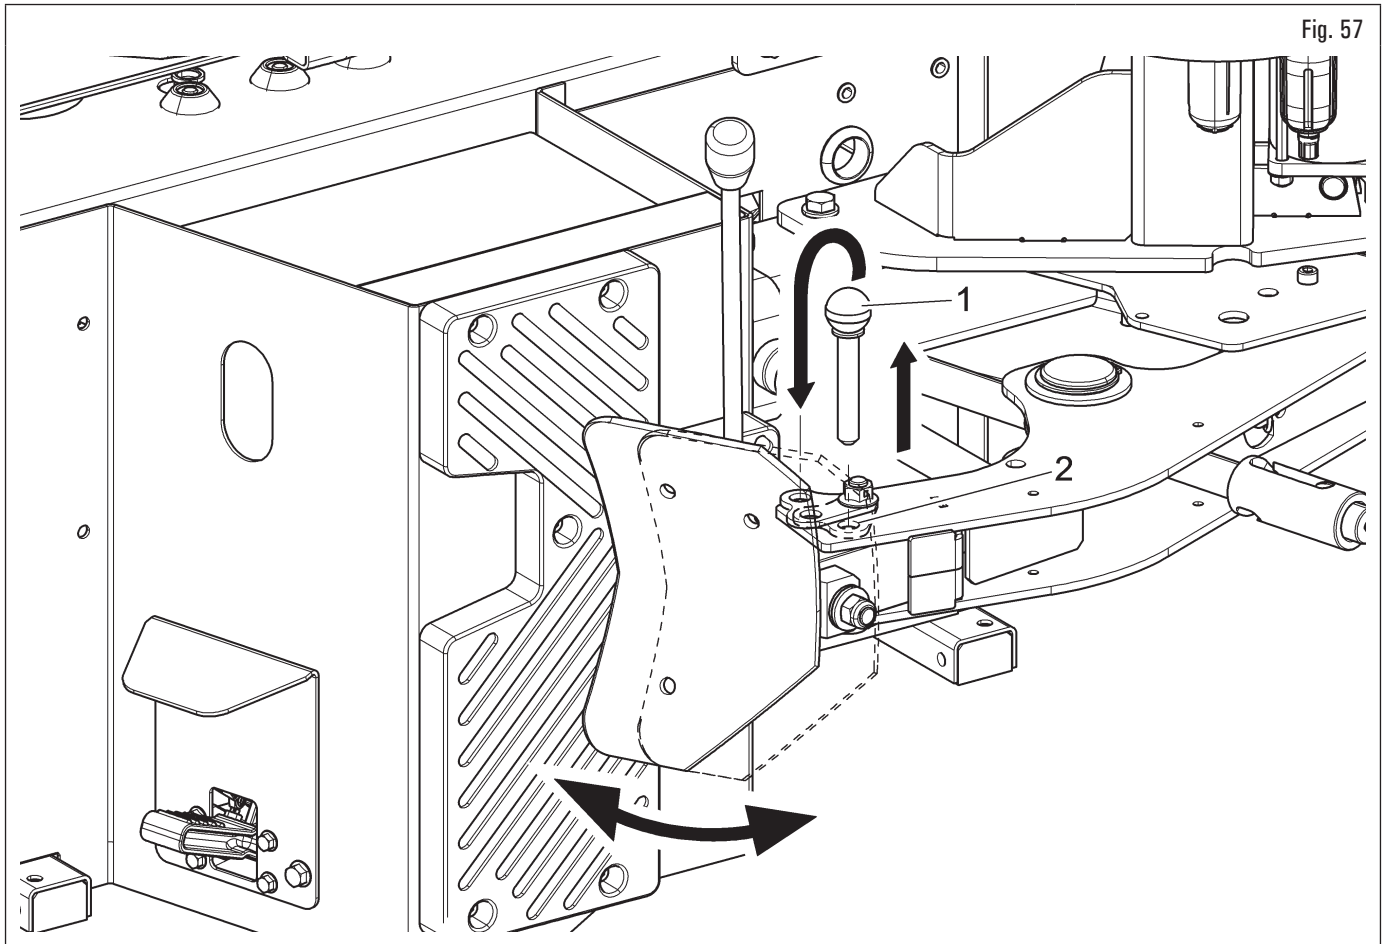

Fig. 57
The bead breaker is equipped with a double articulation (Fig. 57) that allows the optimization of the position between the shovel and the tyre bead during bead breaking phase, through its introduction in between the bead and the rim edge.
While operating with rims with protected edge or with lowered tyres and/or thick tyres, You should place the shovel articulation in order to use the hole (Fig. 57 ref.2).
To change the shovel position on the articulation, take off the pin (Fig. 57 ref. 1) from the hole, turn the vane until the desired hole is placed in correspondence with the articulation hole, then insert the pin again (Fig. 57 ref. 1) into the new seat.